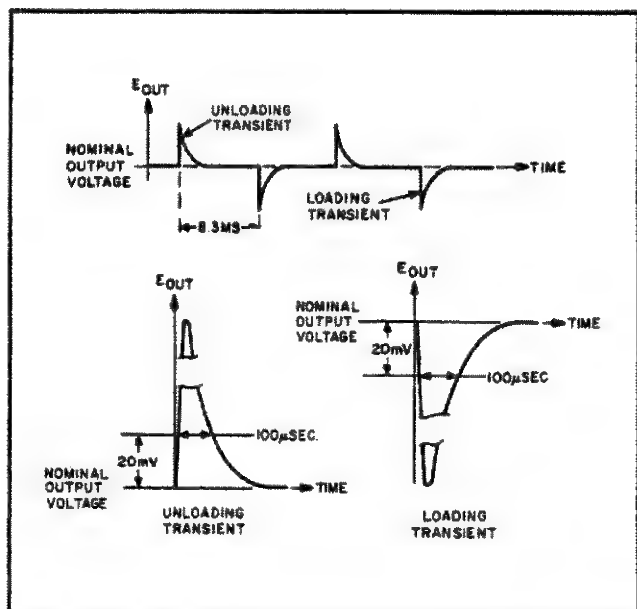

Figure 5-5. Transient Recovery Time, Waveforms
- Starting from the major graticule division representative of time zero, count to the right 100µsec and vertically 20mV. Recovery should be within these tolerances as illustrated in Figure 5-5.